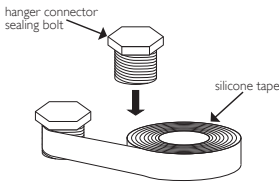

Fig. 4.5
- 12. If applicable; use silicone tape to thoroughly wrap and seal the hanger connector sealing bolt (fig. 4.5).